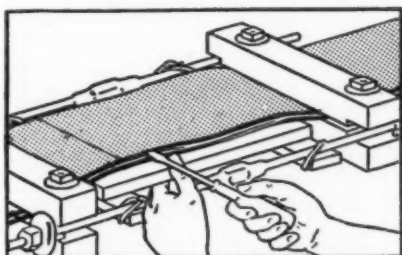

Figure 18
3. Insert a large screwdriver or lap opener one to two inches back of the points of lap and work toward feathered edge (Fig. 18).